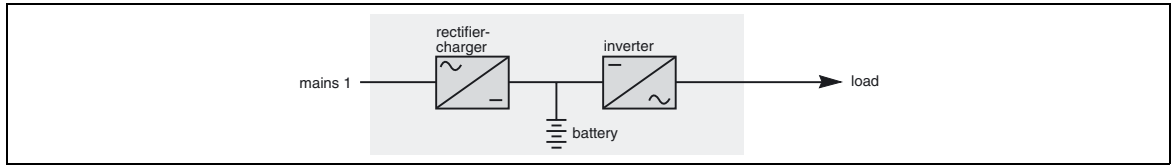

Fig. 4
- Frequency converter with battery backup power: (figure 4)